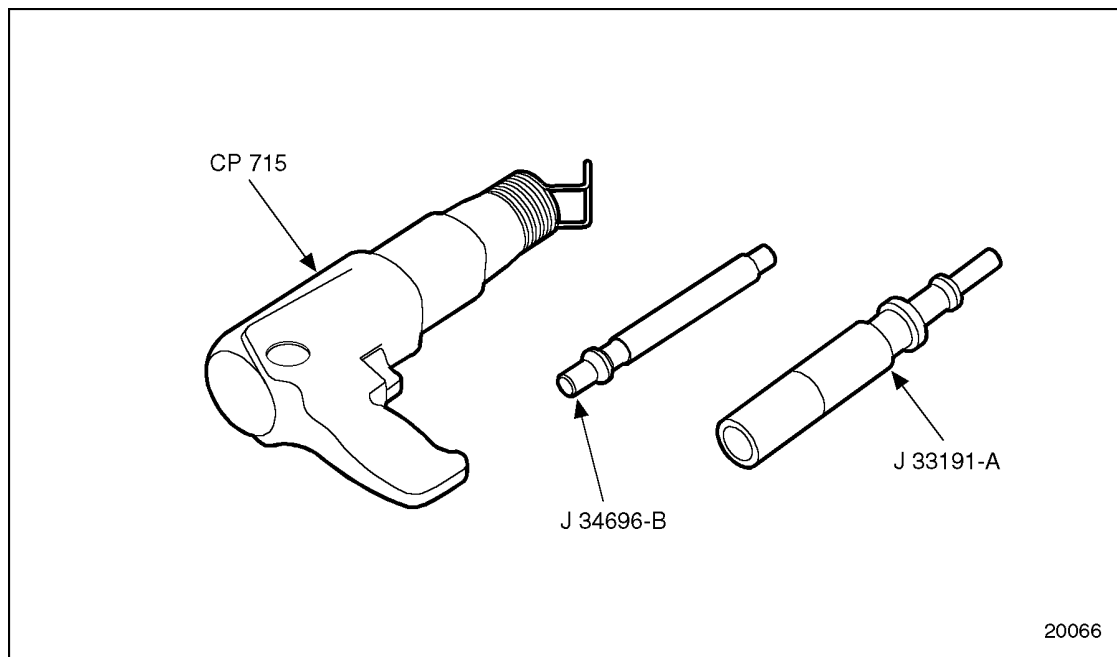

Figure 1-73 Valve Guide Remover
1. Assemble the valve guide remover, J 34696-B, to an air chisel. See Figure 1-73.